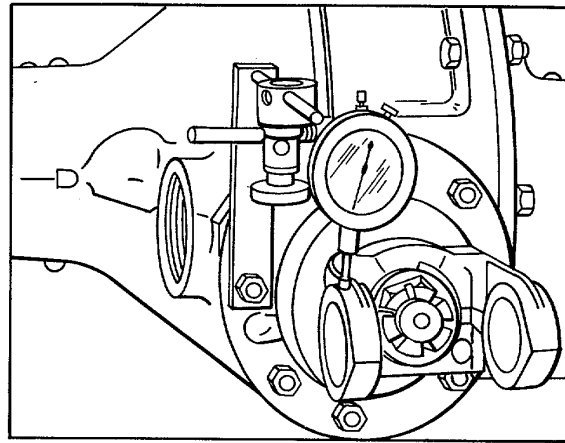

Figure 11.
2. Check gear lash with dial indicator on universal joint yoke 2 inches from pinion shaft center. An indicator reading of between 0.013 inch and 0.033 inch will show the recommended backlash of between 0.006 inch and 0.012 inch is present in the gear set (refer to Fig. 11).